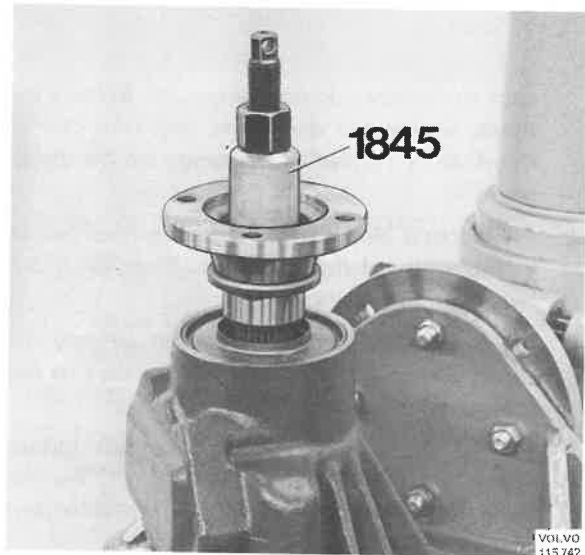

Fig. 46-18. Pressing on the flange
7. Pull on the flange with 1845, Fig. 46-18. Remove the tool and fit 2837. Fit the nut and tighten it to a torque of 280-300 Nm (28-30 kpm = 202-217 lbftf).